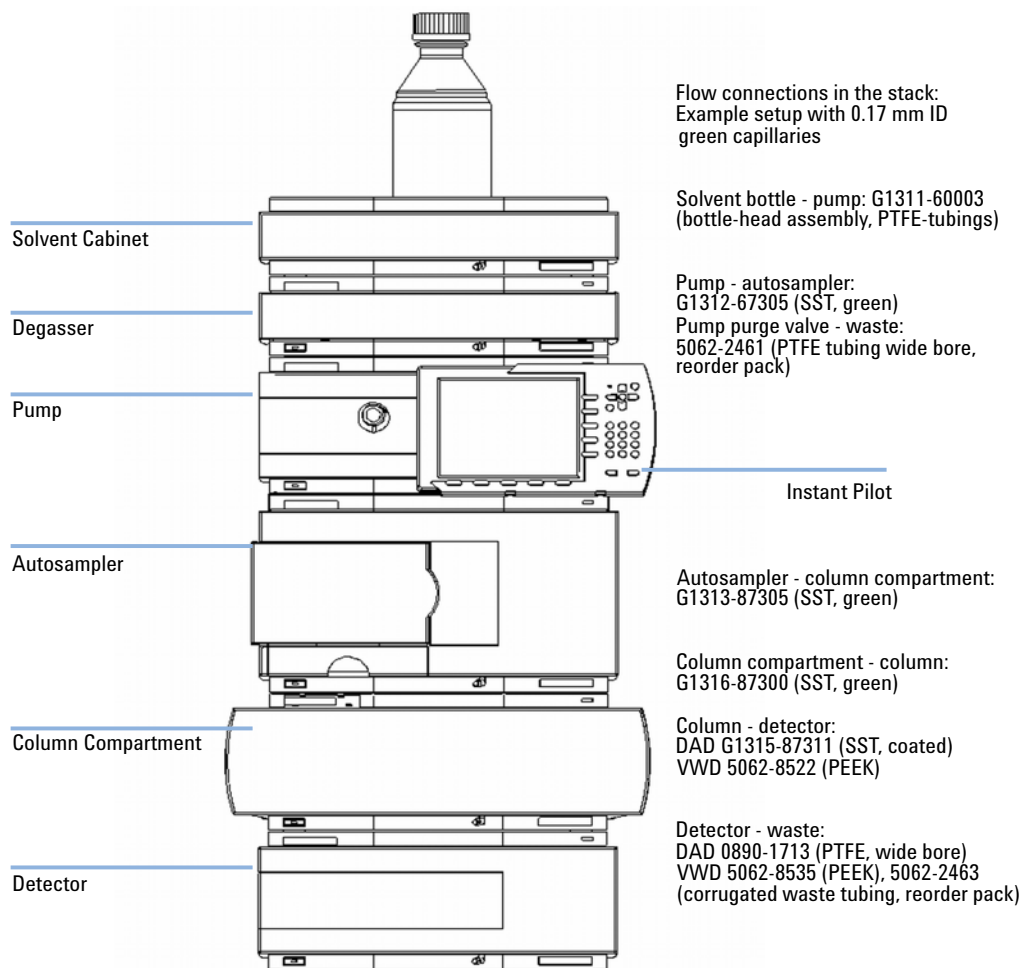

Figure 5 Recommended Stack Configuration (Front View).
- 1** Place the individual modules in a stack configuration as shown in Figure 5 on page 28.
- 1 Place the vacuum degasser in the stack of modules as shown in Figure 5 on page 28.